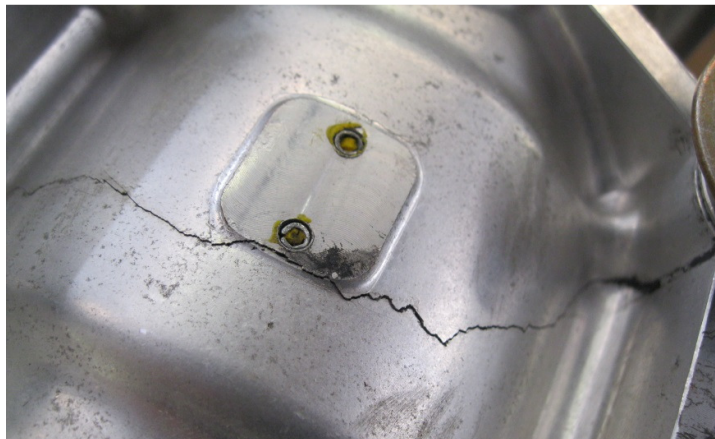

Figure 1: The Crack Detailed in Section 2.
- Visually inspect the hub for visible cracks. See Figure 1.